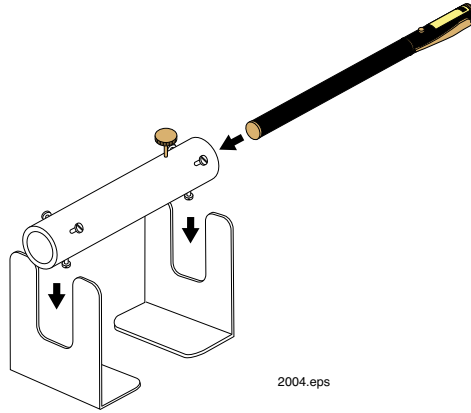

Fig. 4. Laser pointer holder and laser supported by two U-carriers
D. **Laser pointer holder:** Insert an Industrial Fiber Optics laser pointer into the center of the laser pointer holder as shown in Fig. 4. Tighten the six nylon screws around the laser pointer body to hold it securely in place. Be sure that the brass thumbscrew of the holder contacts the pushbutton switch of the pointer. Don't thread the thumbscrew any further than required to contact the switch since it will activate the laser.